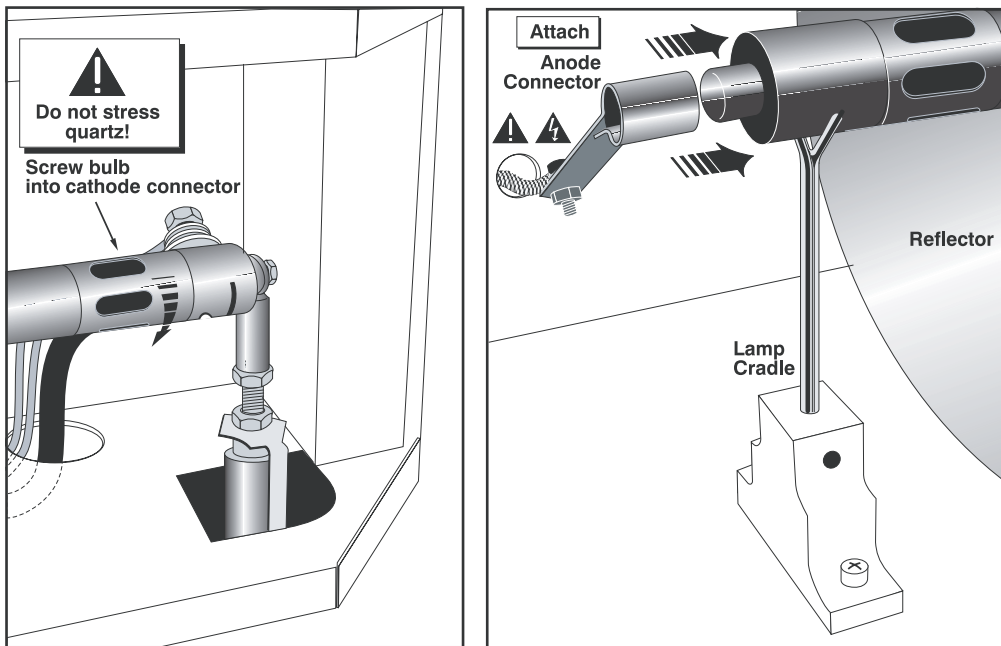

Figure 5-2. Installing A New Lamp
- Install new lamp:** With protective clothing and face shield on, insert the threaded cathode (-) end of the lamp into the negative lamp connector nut located in the rear of the lamp compartment and screw in fully; see Figure 5-2. Hand-tighten only.
12. Rest the anode (+) end of the lamp on the lamp cradle as shown in Figure 5-2. Then, slip the positive lamp connector over the bulb end.